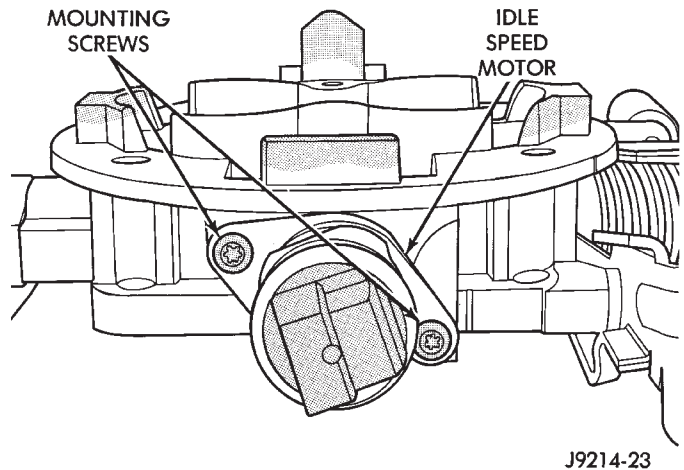

Fig. 69 Mounting Bolts (Screws)—IAC Motor—5.2L Engine
- (1) Remove air duct at throttle body.
- (2) Disconnect electrical connector from IAC motor.
- (3) Remove two mounting bolts (screws) (Fig. 69).